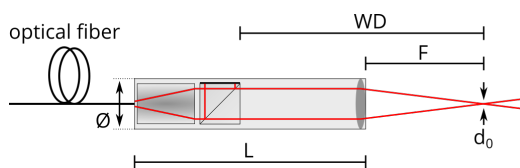

Figure 1. Schematic drawing of the sensor head F04.
After pre-collimation, an integrated beam splitter splits the light into a reference and probe beam as shown in Figure 1. The reference beam is reflected off the reference mirror which is coated to one side of the beam splitter cube. The probe beam is focused by a lens system and exits the head. The front surface of the beam splitter marks the absolute zero position of every PICO SCALE measurement as here the probe and reference beam are of equal length. Thus, the working distance (WD) is not equal to the distance from the head (i.e. focal length F) since the lens system is only integrated into the probe beam.